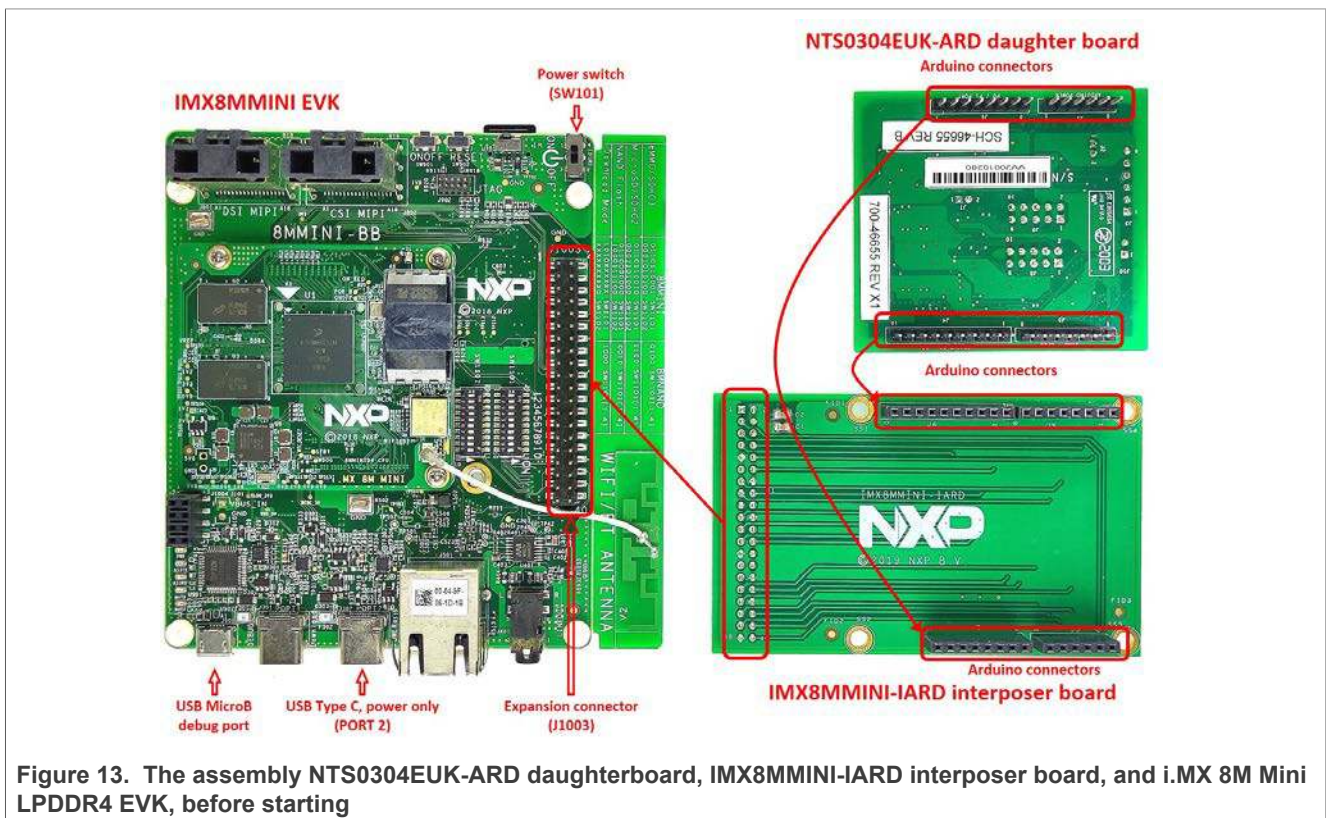
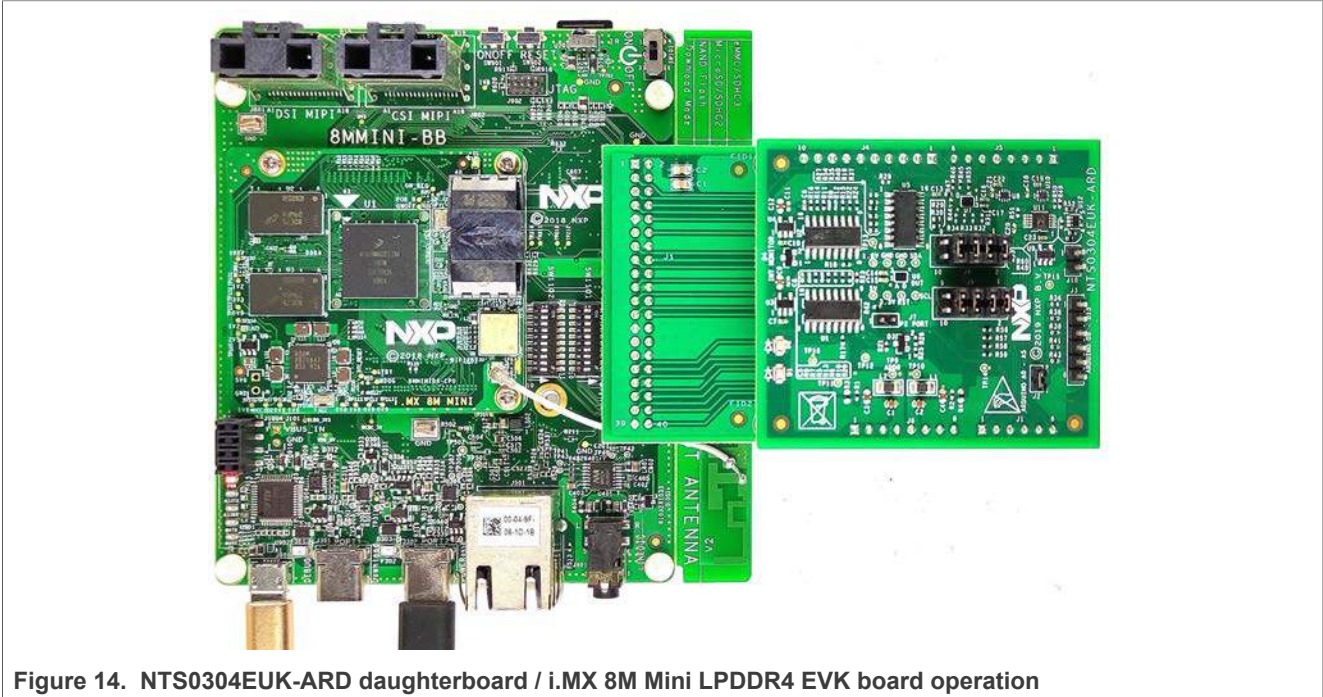

Figure 13. The assembly NTS0304EUK-ARD daughterboard, IMX8MMINI-IARD interposer board, and i.MX 8M Mini LPDDR4 EVK, before starting
Figure 14. NTS0304EUK-ARD daughterboard / i.MX 8M Mini LPDDR4 EVK board operation
To operate the setup, along with the EVK and the daughterboard, a third board must be included in the setup assembly. Figure 13 shows the necessary boards and how these boards are connected. The configuration consists of:
To power-up the EVK, a USB-C type cable connected to PORT 2 of the EVK is used. The power switch SW101 on the EVK board must be set to ON position to power-up the setup. Data communication is achieved by routing a separate USB (Micro-B type) cable from the USB port on the PC to debug port (J901) on the EVK (see Figure 13 and Figure 14).
2. Attach IMXMMINI-IARD connector plug J1 (located on the bottom of the board) into J1003 expansion board located on the top side of i.MX 8M Mini LPDDR4 EVK (see Figure 13)